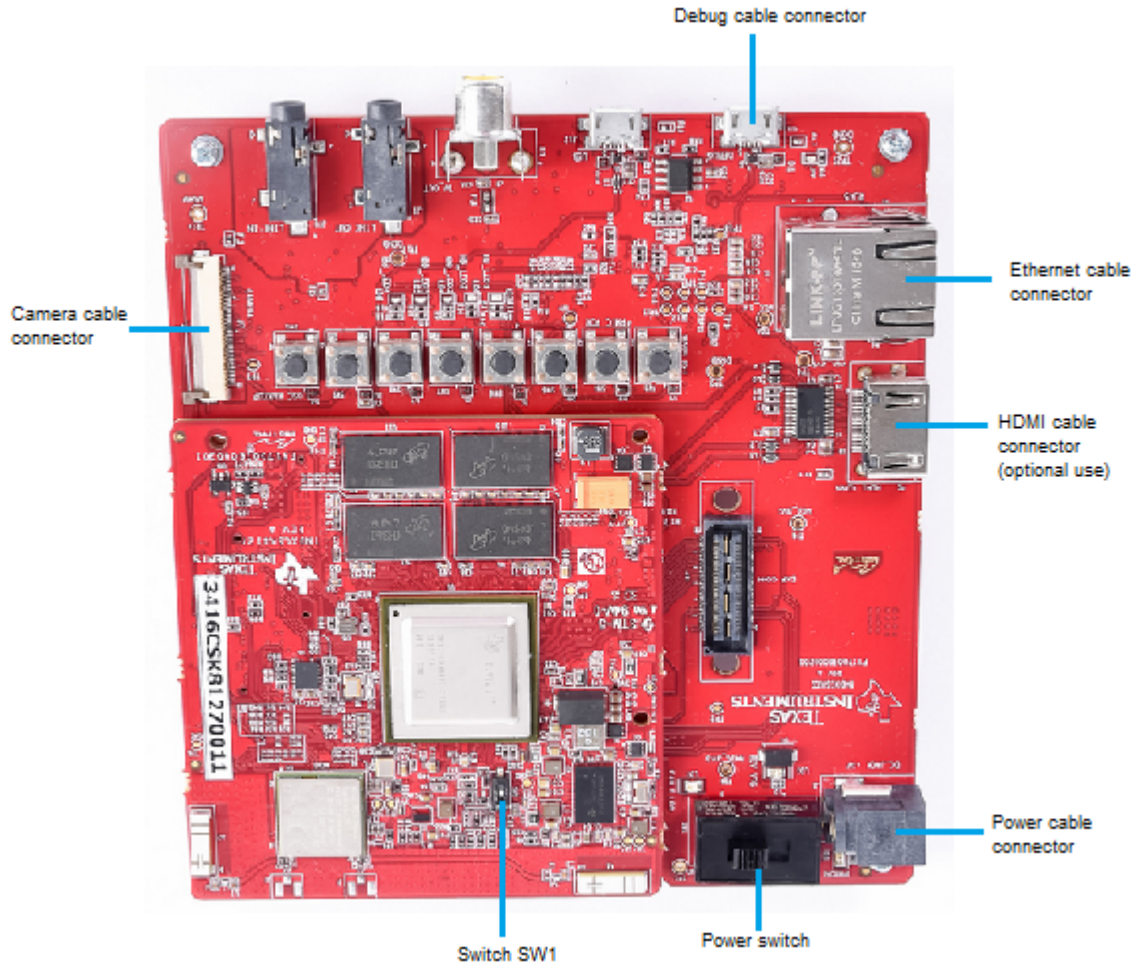

Figure 4. DM8127 CSK Connections (2 of 2)
2. Set switch 1 (SW1) to ON (see Figure 4).